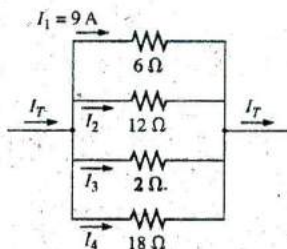

FIG. 6.99
30. Based solely on the resistor values, determine all the currents for the configuration in Fig. 6.99. Do not use Ohm's law.